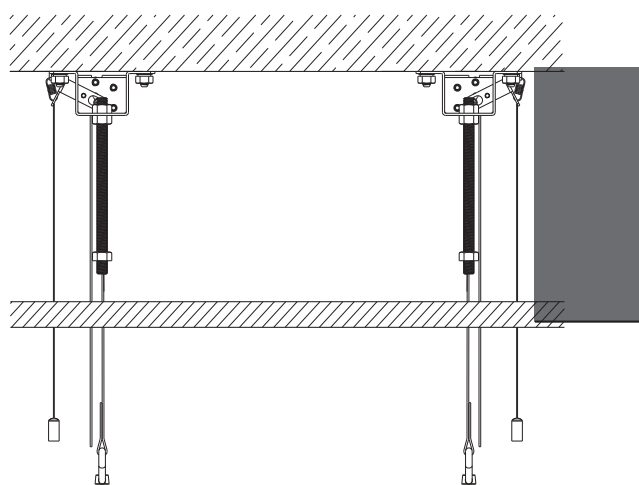

Fig12
(4) Fixed the bracket to the ceiling (fig11/fig12)